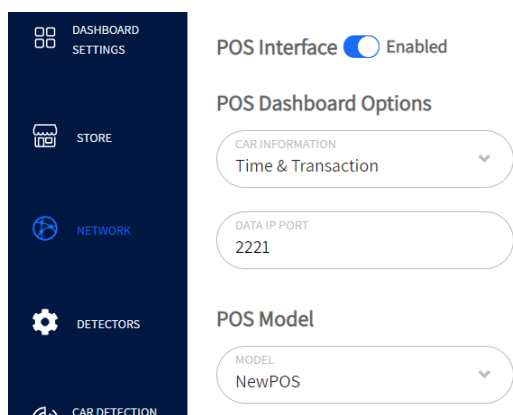

Fig. 5.4
**Example:** An ACTIVATION CODE is required to activate this feature. Call the Technical Support number on this screen and provide them with the FEATURE CODE displayed to receive your activation code. Enter this activation code and click on the Activate button. A screen like the one in Fig. 5.4 will appear.